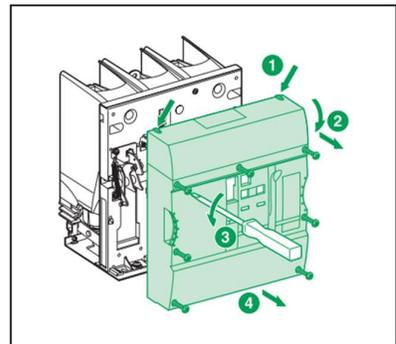

Fig. 10
4) If item 3) determined that an MN coil is installed in the CB, remove the front cover (Fig. 10) and locate the MN coil (Fig. 12). Then identify the reference number written on the MN coil. Refer below picture (Fig. 11).